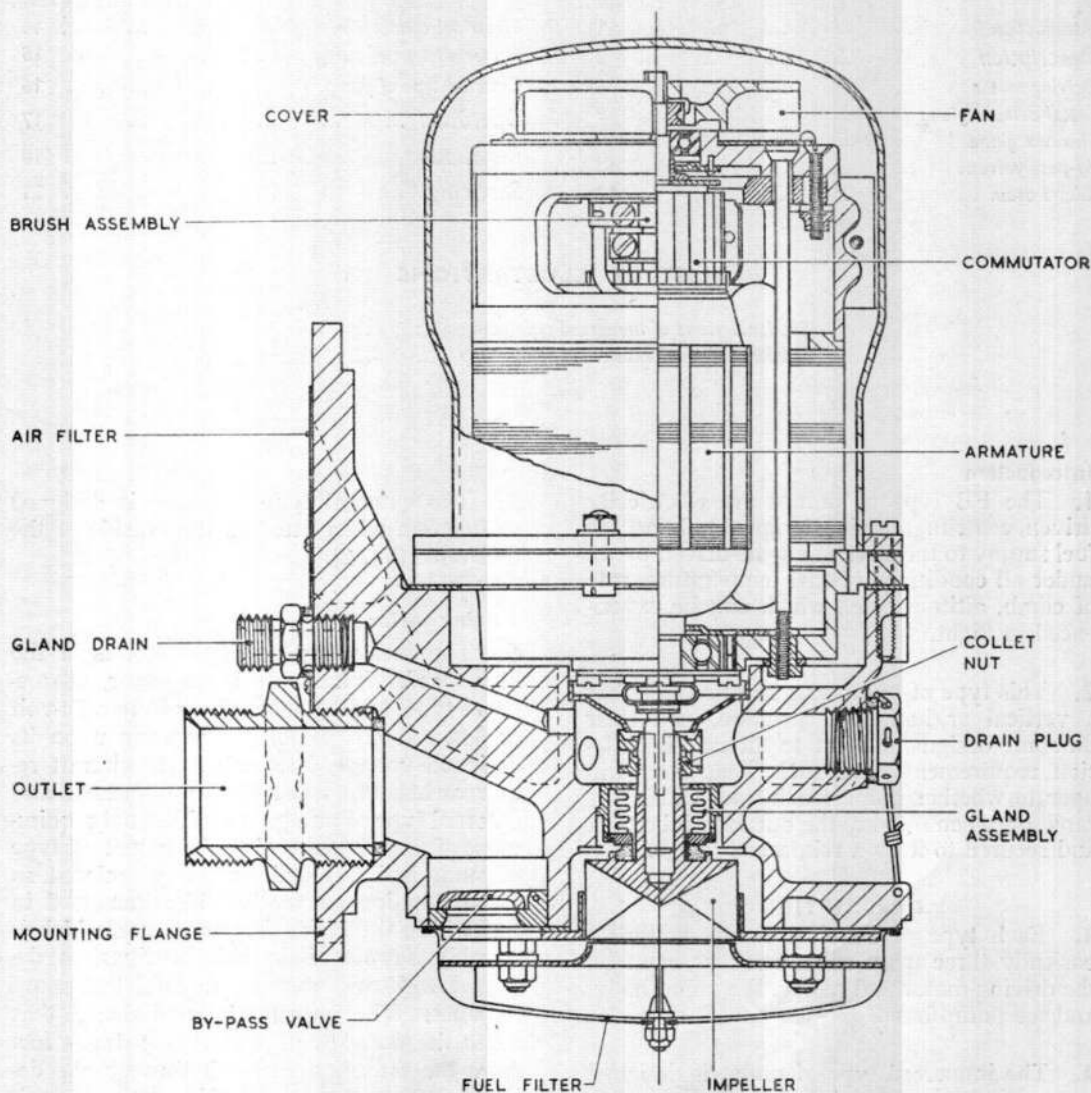

Fig. 1. Sectional views of immersed type pump
4. The immersed type of pump is designed to function when fitted within the fuel tank (fig. 1).